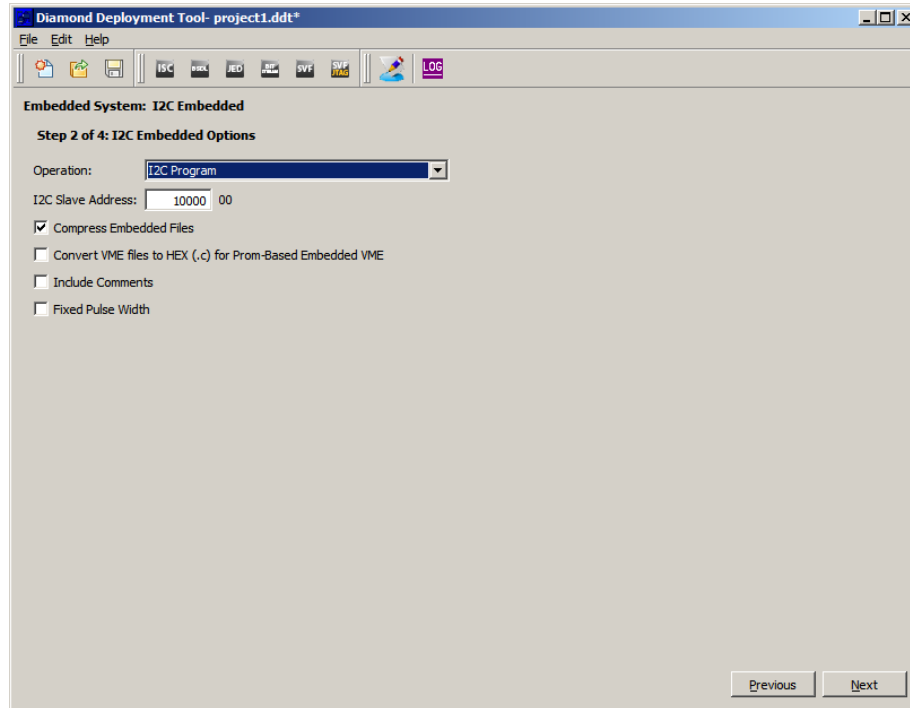

Figure 10.6. Selecting I2C Program Option
6. After the file generation completed successfully, you need to regenerate the Algorithm file and the data file for programming. You need to select I2C Program option (as shown in Figure 10.6).